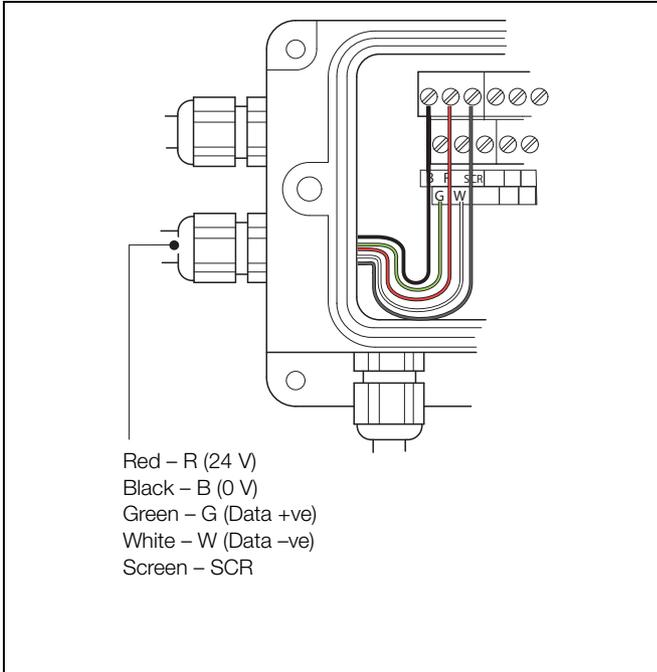

Fig. 3.13 Additional serial cable connections to multiple wet-sections
1. Open the wet-section door by releasing the 2 door locks (A).
2. Remove the 4 screws (B) and associated plastic screw retaining washers (C) holding the wet-section PCB cover in place and remove the cover.
3. Remove the blanking plug by loosening the gland nut, feed the supplied communications cable through the cable gland and make the connections shown in Fig. 3.13, page 15.